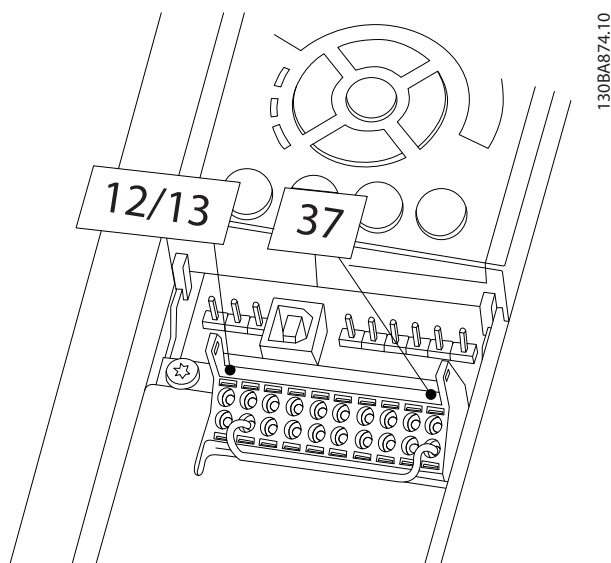

Figure 2.1 Jumper between Terminal 12/13 (24 V) and 37
1. Remove the jumper wire between control terminals 37 and 12 or 13. Cutting or breaking the jumper is not sufficient to avoid short-circuiting. (See jumper on *Figure 2.1.*)